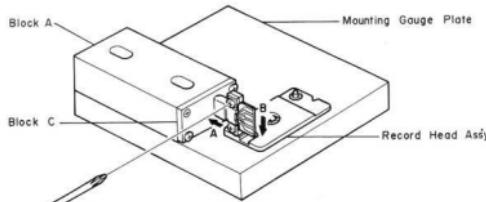

Fig. 5.16
- (5) Remove the Block B from the Mounting Gauge Plate.
- (6) As shown in the Fig. 5.16, mount the R-54 record head assembly onto the Mounting Gauge Plate, then check the location of the R-54 record head surface. (If record head contacts to the Block C, loosen 2 pcs. of screws that assembled record head and R-54 record head assembly, then place the R-54 record head assembly onto the Plate.)
- (7) Remove the R-54 record head assembly from the Mounting Gauge Plate.
- (8) Readjustment of Record Head Mounting Gauge M-9048 (DAO9048A)
- (9) Remove the Block B from the Mounting Gauge Plate.
- (10) Mount the R-54 record head assembly onto the Mounting Gauge Plate.
- (11) As shown in the Fig. 5.16, loosen the R-54 record head with 2 pcs. of screws onto the record head plate. As the location of the Block A is secured by the item (8) - (c), push the record head to the directions A and B, then tighten 2 pcs. of screws.
- (12) Check to insure freedom from gap between the Block C and record head surface, then tight the 2 pcs. of screws on the record head plate with lock tight paint.
- (13) Assemble the record head assembly to the head mount base assembly.
- (14) Assemble the head mount base assembly to the mechanism assembly.
- (15) Check the record head stroke.